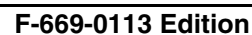

Figure 4-3: Model 855C/855 HD Wiring Diagram
1. Maintenance of the electrical system consists of inspection and minor servicing. Any wire, connection or electrical component showing signs of corrosion, wear, breakage or unraveling must be repaired or replaced (**See Figure 4-3 for electrical wiring diagram**).